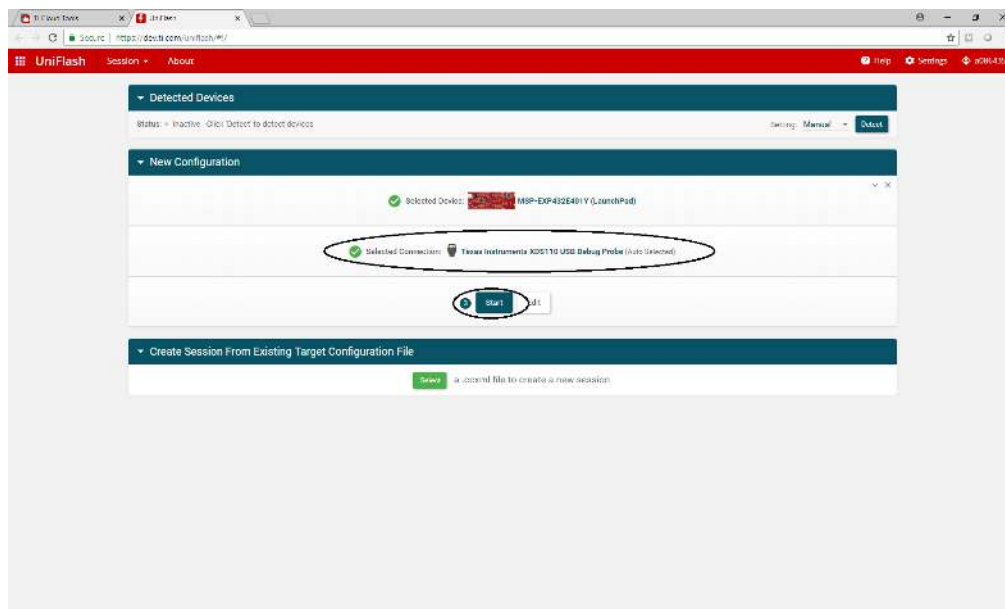

Figure 12. UniFlash: Choose Connection
2. As shown in Figure 12, the *Selected Connection* automatically selects the *Texas Instruments XDS110 USB Debug Probe*. Press *Start* to continue.